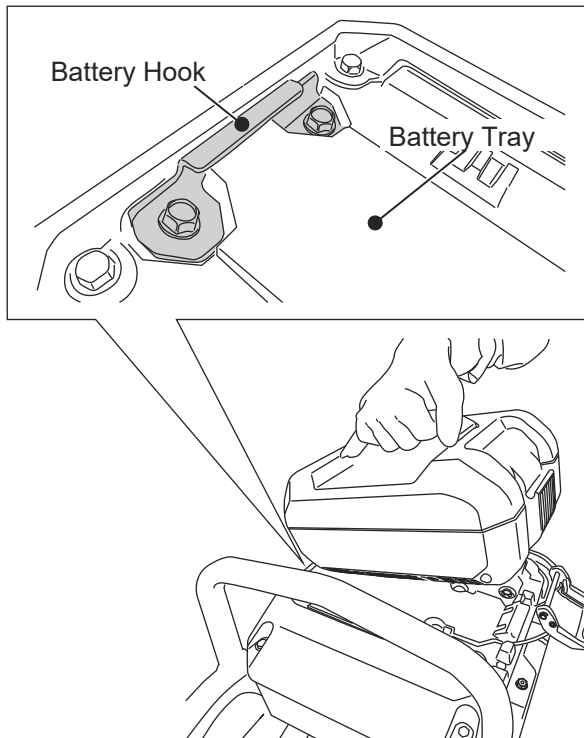

Fig.3
1. Make sure there are no debris or dirt on the battery tray.(Fig.3)
2. Tilt the Battery Pack and insert its claw into the battery hook.(Fig.3)
2. Pull the battery fastener down to unlock, tilt the Battery Pack up and pull the Battery Pack claw out from the battery hook, and remove the Battery Pack.(Fig.3,4)